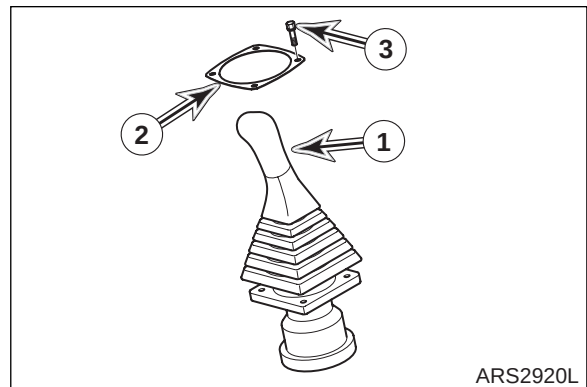

Figure 5
10. Remove four bolts (3, Figure 5) and cover (2), and pull remote control valve LH (1) out.
11. Tag and disconnect hoses from remote control valve LH (1, Figure 5). Plug and cap hoses and ports to prevent contamination from entering hydraulic system or component.